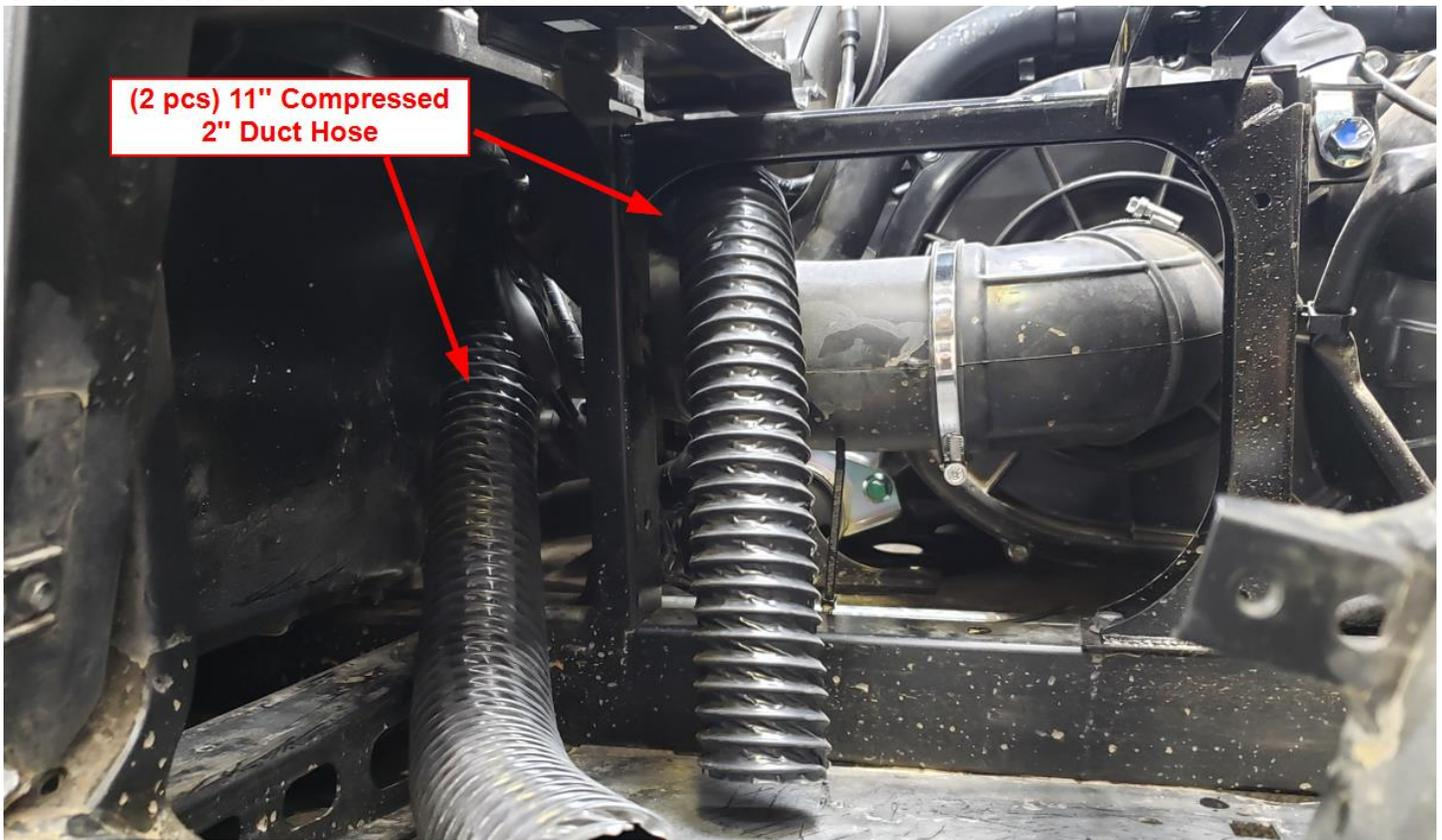

Figure 20
- c. For the following steps refer to the hose routing guide in Figure 19. Using the 2” flexible duct hose, measure out (2) 11” pieces of compressed hose. **NOTE: It's critical these measurements are taken in a compressed state.** Route the hoses from the center tunnel to the driver seat area as shown in Figure 20.